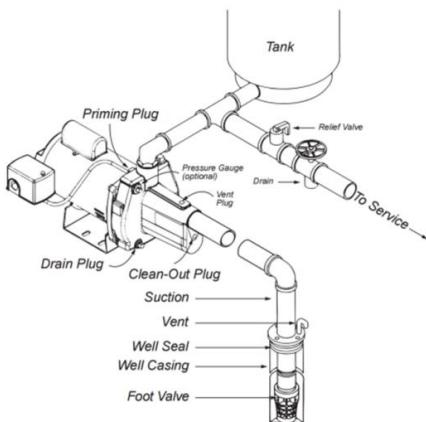

FIG. 2A SHALLOW WELL (WITH FOOT VALVE)
- d) Service Line:** The service line should be connected as shown in Fig. 2a, b, c or d. The size of the service line required is governed entirely by the amount of water needed and the length of the pipe. The pipe selected should be large enough so that the friction loss (determined from Table 2, Friction Loss Chart) will never exceed 20 ft (6m) head.